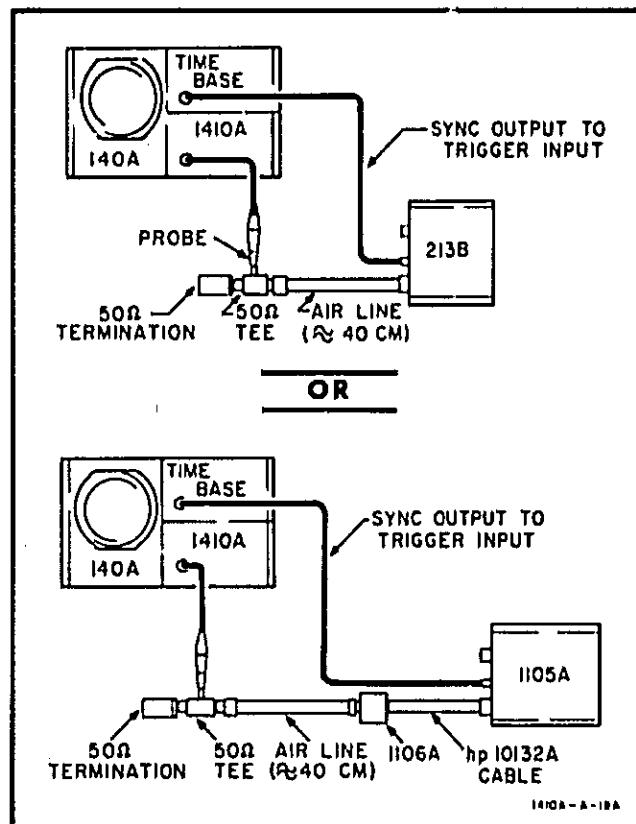

Figure 5-1. Setting Rise Time
- Connect a fast rise time Pulse Generator (hp Model 1105A/1106A or hp Model 213B) to Channel A as shown in Figure 5-1. Set Pulse Generator TRIGGER to + and OUTPUT to +.
- a. Connect the fast rise Pulse Generator through a 40 cm air line to a 50 ohm Tee, terminated into 50 ohms (see Figure 5-1). Insert probe into Tee. Free-run the time base and use the SYNC PULSE output to trigger the pulse generator.